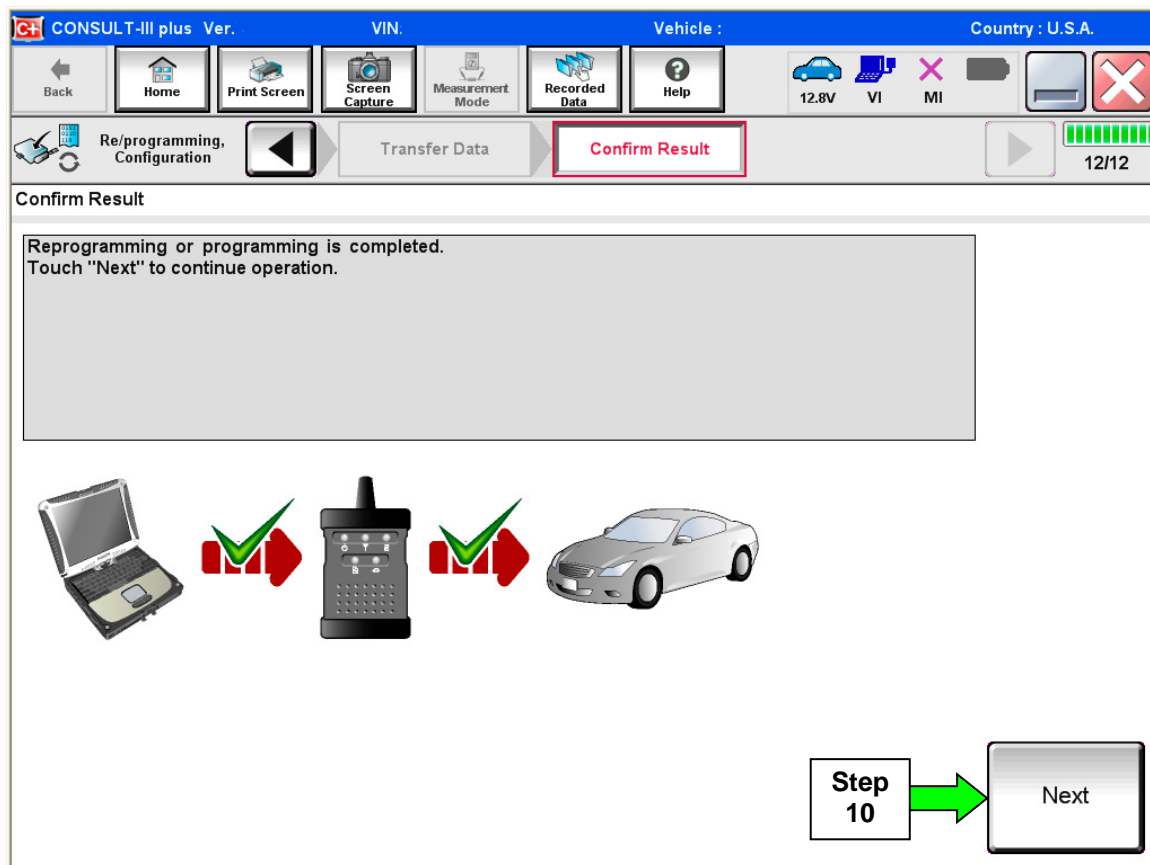

Figure 4
8. When the screen in Figure 4 displays, reprogramming is complete.
NOTE: If the screen in Figure 4 does not display (reprogramming does not complete), refer to the information on page 7.